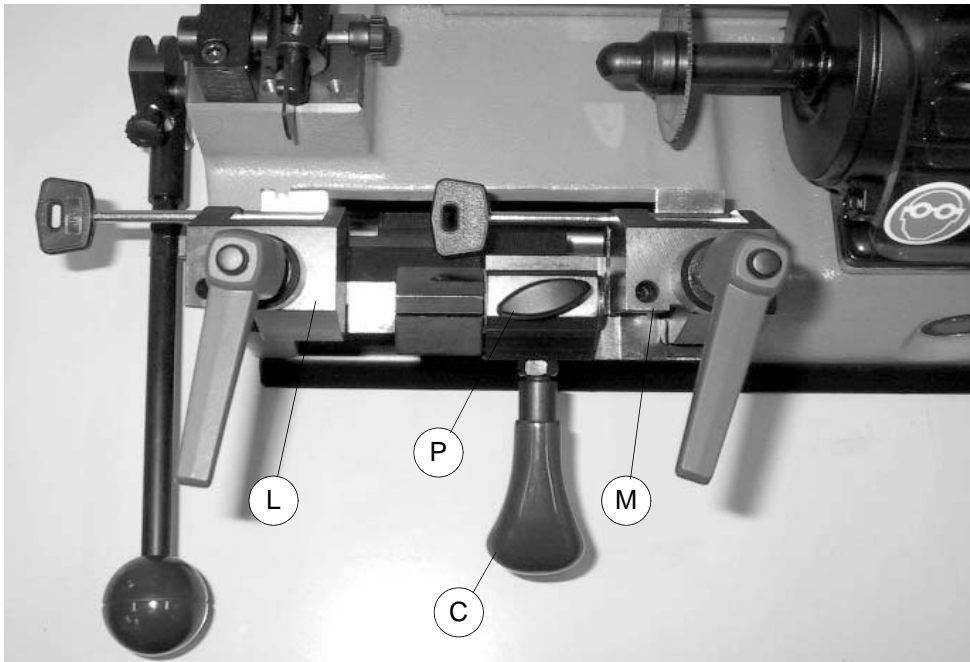

Fig. 13
- 1) Position the sample key into the left clamp (L) and fasten it; position the key blank into the right (M) without fastening it.
- 2) use the (C) lever to move the bit of the key towards the tracer point.
- 4) loosen the carriage and the knob (P) and turn the machine on using the (A) switch.
**Important:** move the carriage by raising the knob (C), this makes it move towards the cutter with the key tilted thus aiding the cut (fig.13).
- 6) round off the cuts by tilting the (C) knob from top to bottom.
- 2) stop the right clamp from tilting by fastening the knob (P) (fig. 13, page 17).
- 3) insert the sample key into the "V" shaped housing of the left clamp (L), make sure it presses against the side of the clamp and fasten it.
- 4) in the same way fasten the key blank in the right clamp (M).